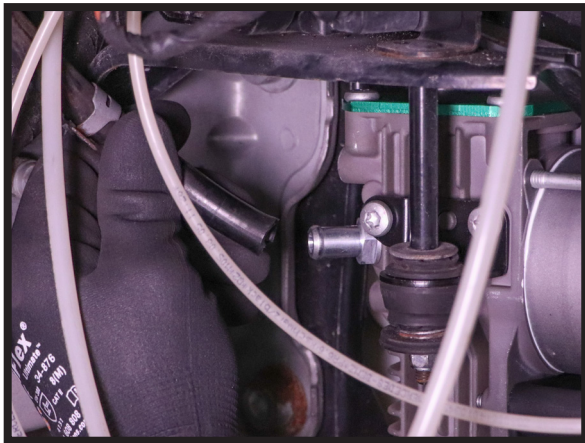

FIGURE 17
3. REINSTALL THE EXHAUST HOSE TO THE NEW COMPRESSOR. (FIGURES 17, 18)